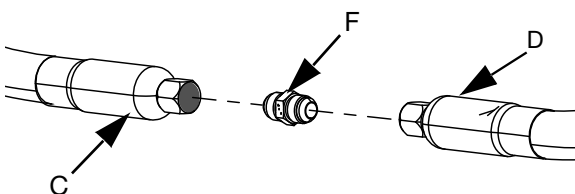

FIG. 25
- 6. If you are using two supply hoses (C and D), use the Supply Hose 1 to Supply Hose 2 Fitting (F) to connect Supply Hose 1 (C) to Supply Hose 2 (D). See FIG. 25.